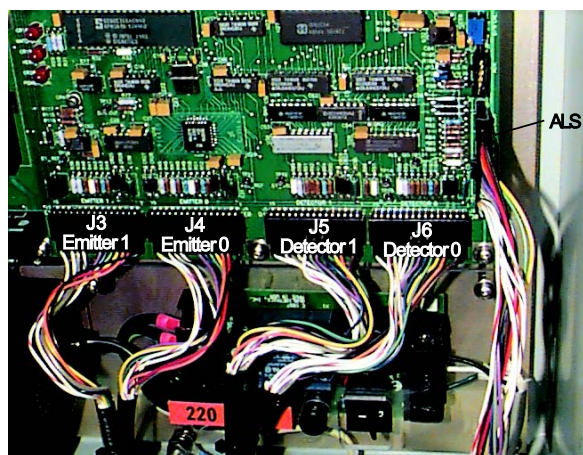

Figure 2-10. Connect the sensor head cables to the connectors on the controller board as shown.
3. Connect the sensor cables to the corresponding connectors on the controller board as shown in **Figure 2-10**. Care must be taken to ensure that the cables are properly installed prior to connecting power.